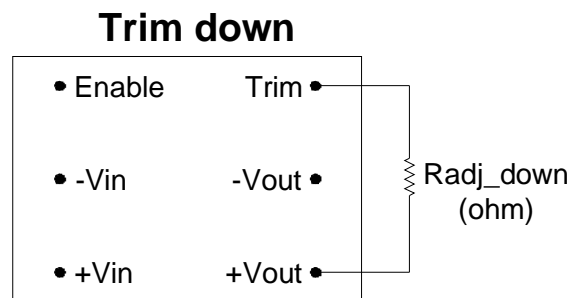

Figure 3. Circuit Configuration to Decrease Output Voltage
**To adjust Vo to a lower value**, please refer to Figure 3.